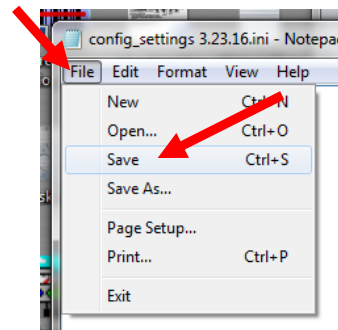

Figure 2
4. Click on File and Save or Save the modified file on a blank USB stick that is formatted with FAT32 (see Figure 2).